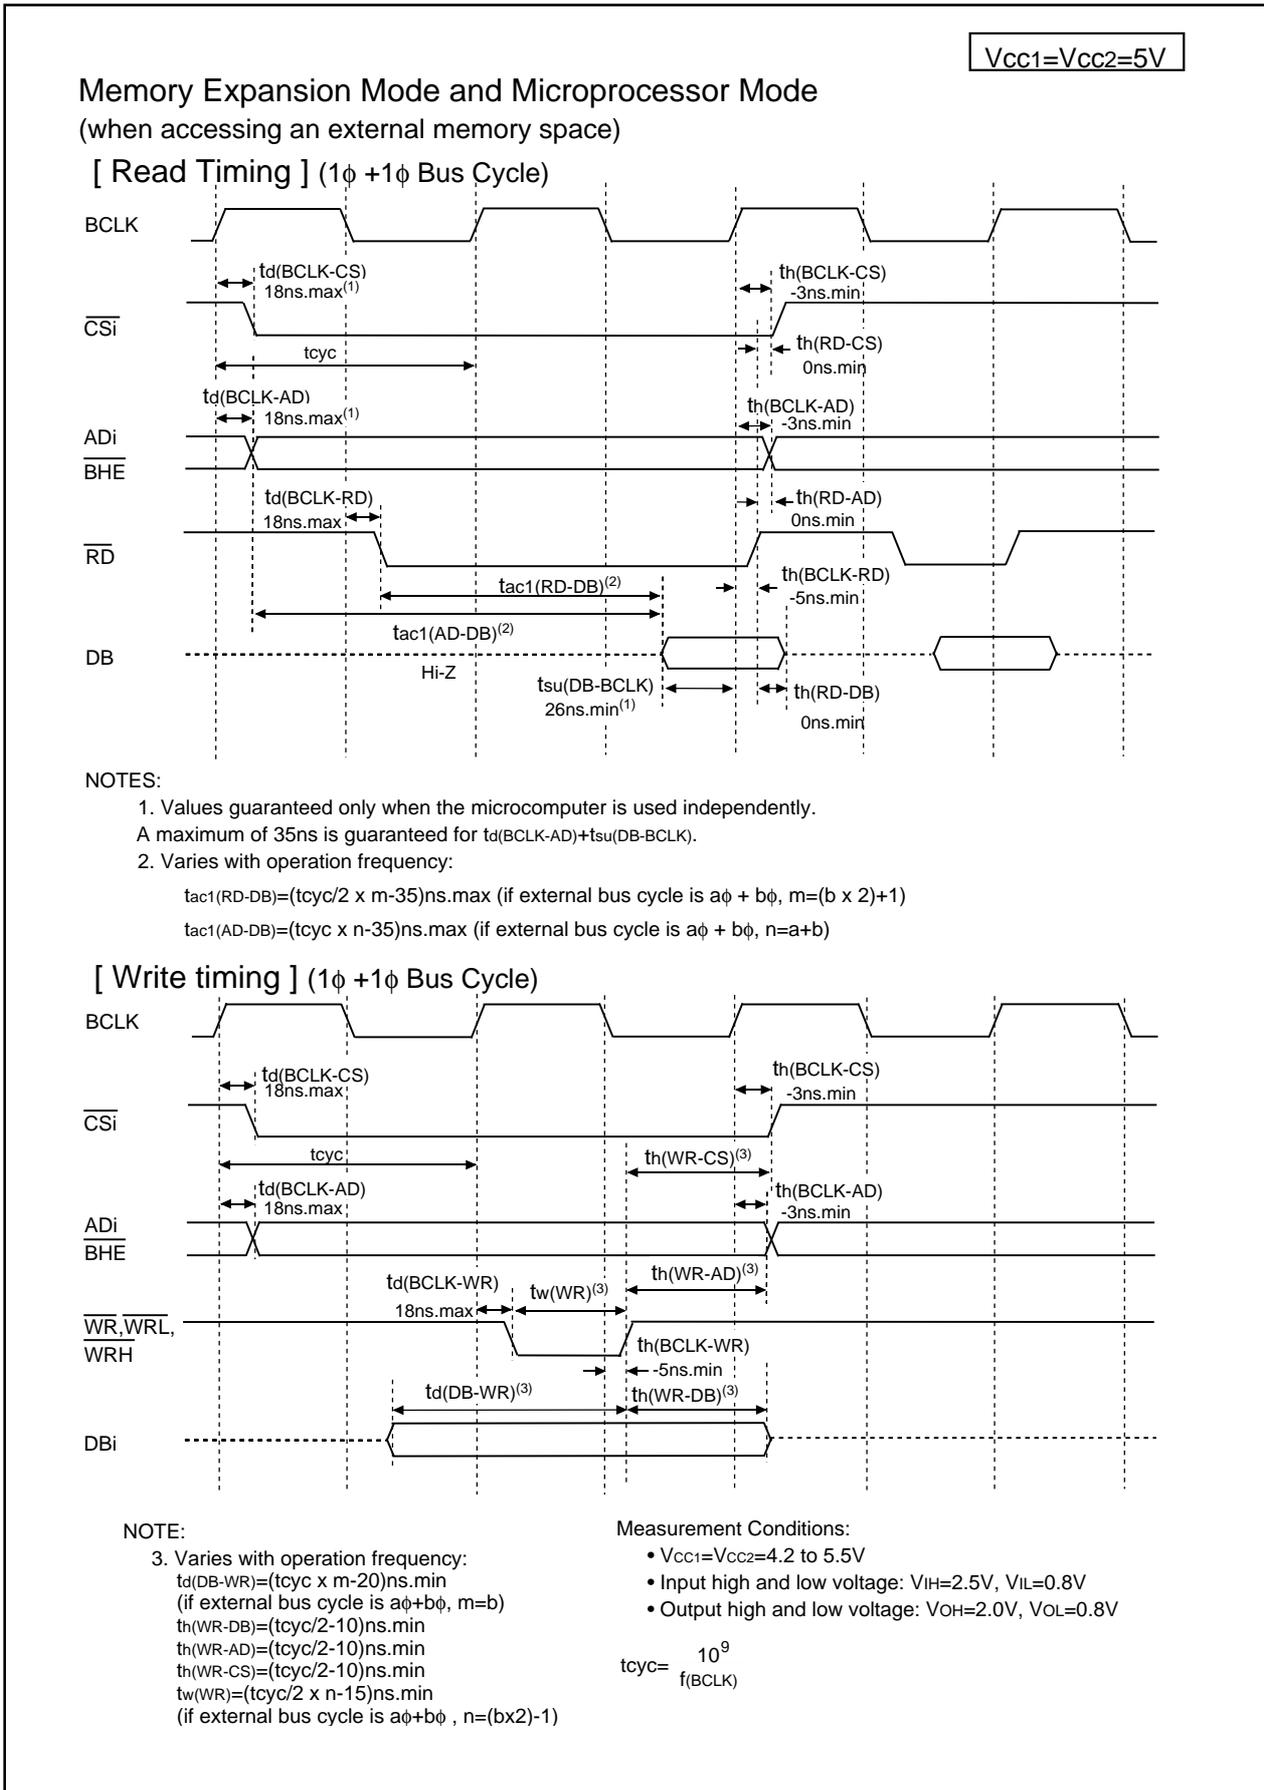

Figure 5.2 VCC1=VCC2=5V Timing Diagram (1)
41	<ul style="list-style-type: none"> <li>• Figure 5.2 VCC1=VCC2=5V Timing Diagram (1) Expression for tcyc added; note 3 corrected</li> </ul>